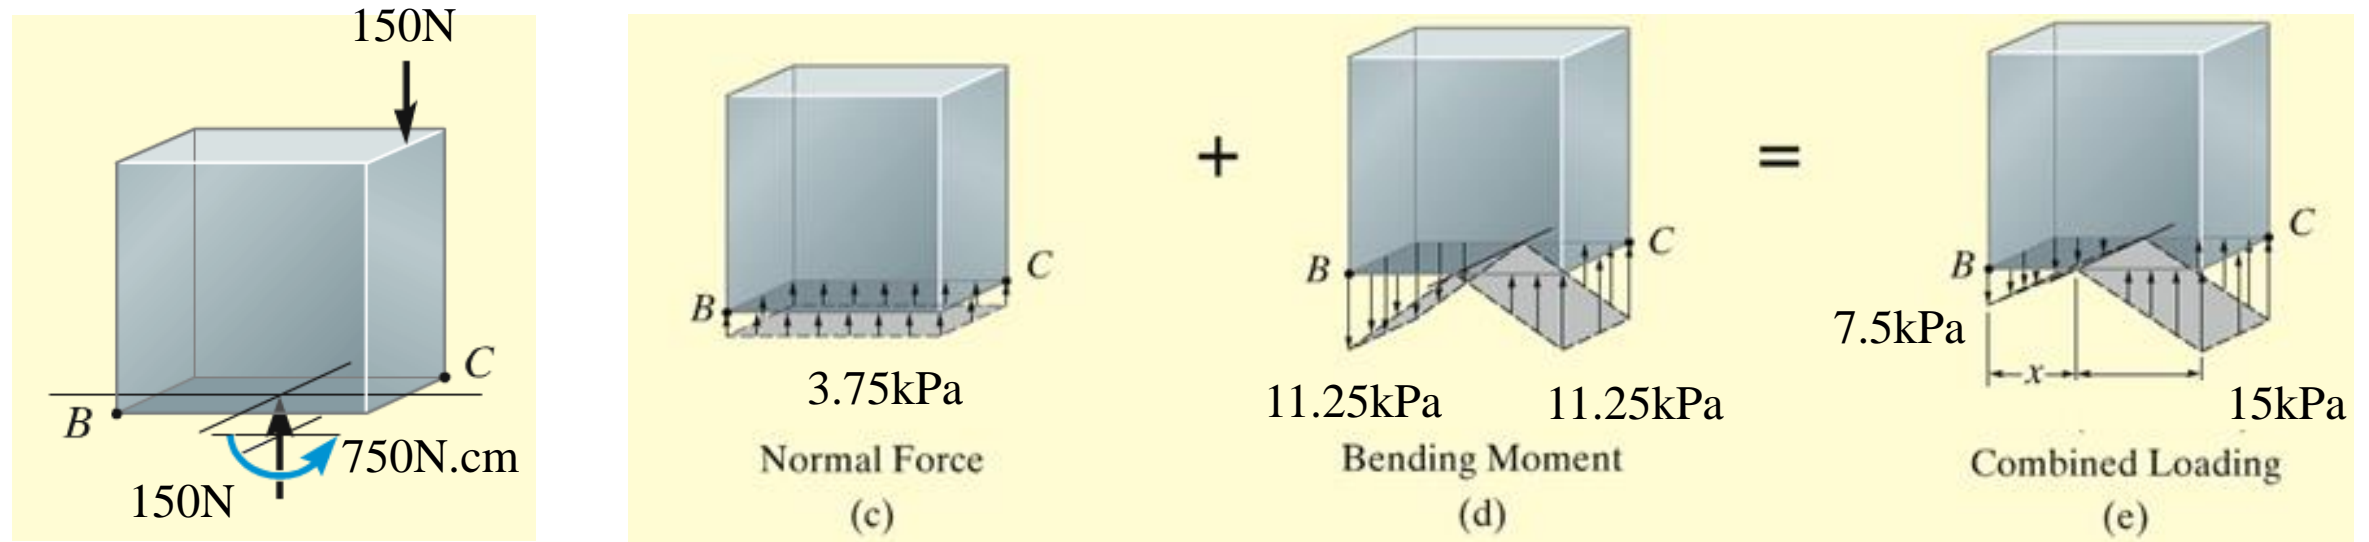

Fig.5-10
- **Normal Force.** The uniform normal-stress distribution due to the normal force is shown in Fig.5-10. Here
- **Bending Moment.** The normal stress due to the bending moment is shown in The uniform normal-stress distribution due to the normal force is shown in Fig.5-10. The maximum stress is